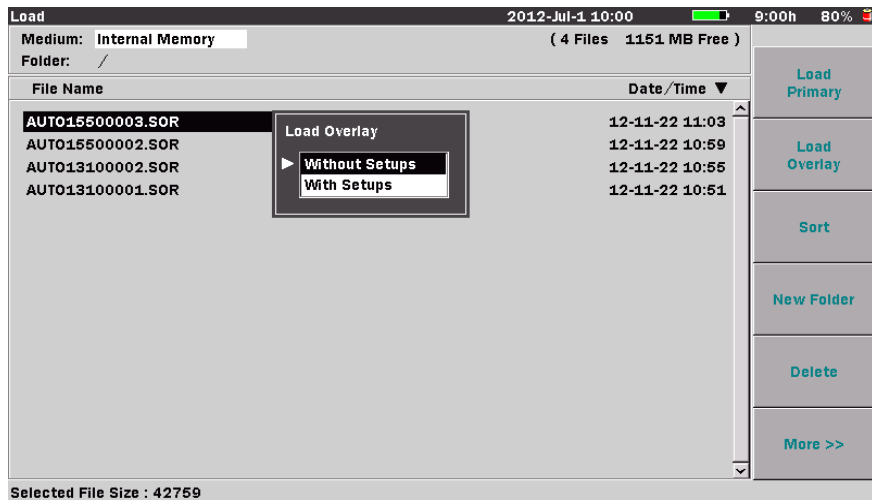

Figure 4-38: Load Overlay Dialog box
3. Select **Load Overlay** (f2), the Load Overlay dialog box appears. See Figure 4-38 on page 4-94.